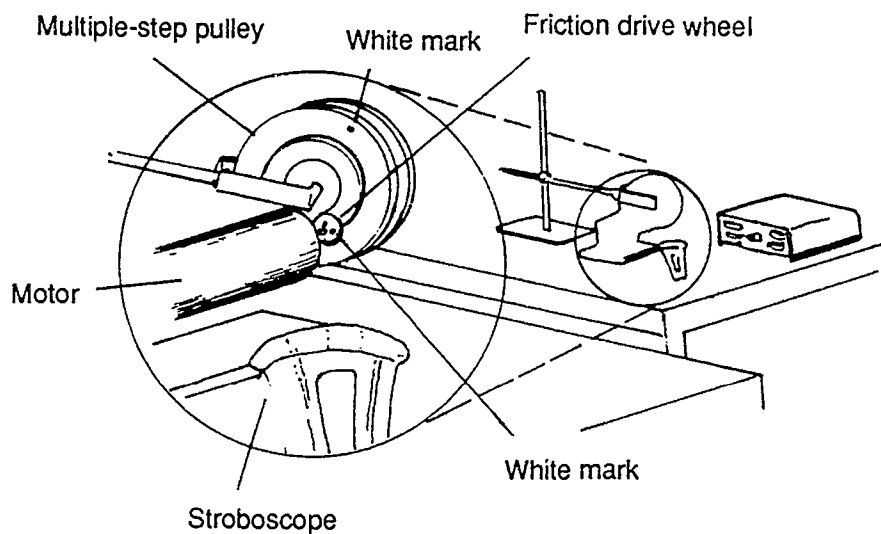

Figure 1. Demonstration setup.
1. Set up apparatus, as shown in Figure 1.